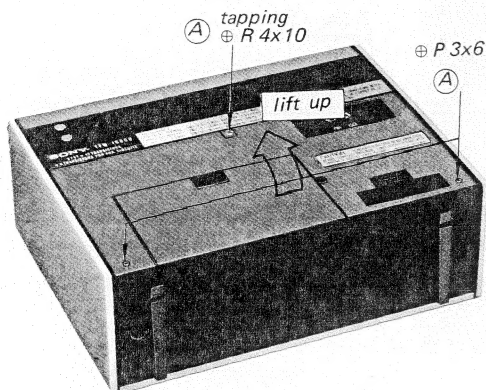

Fig. 2-1. Rear cabinet removal
2. Remove the three screws marked (A) in Fig. 2-1.